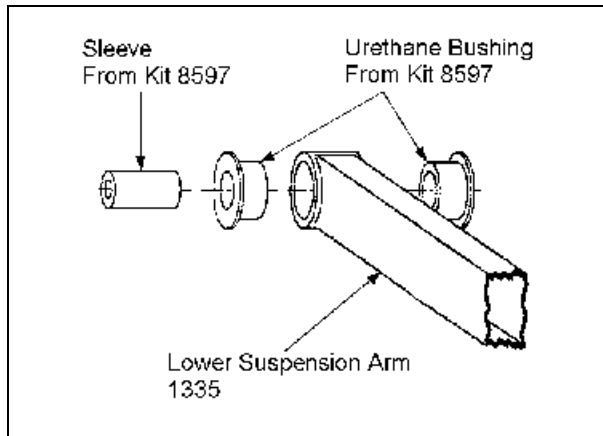

Figure 1
2. ≤ Press the bushings (Do Not Hammer) into one end of a new lower suspension arm. See figure 1.